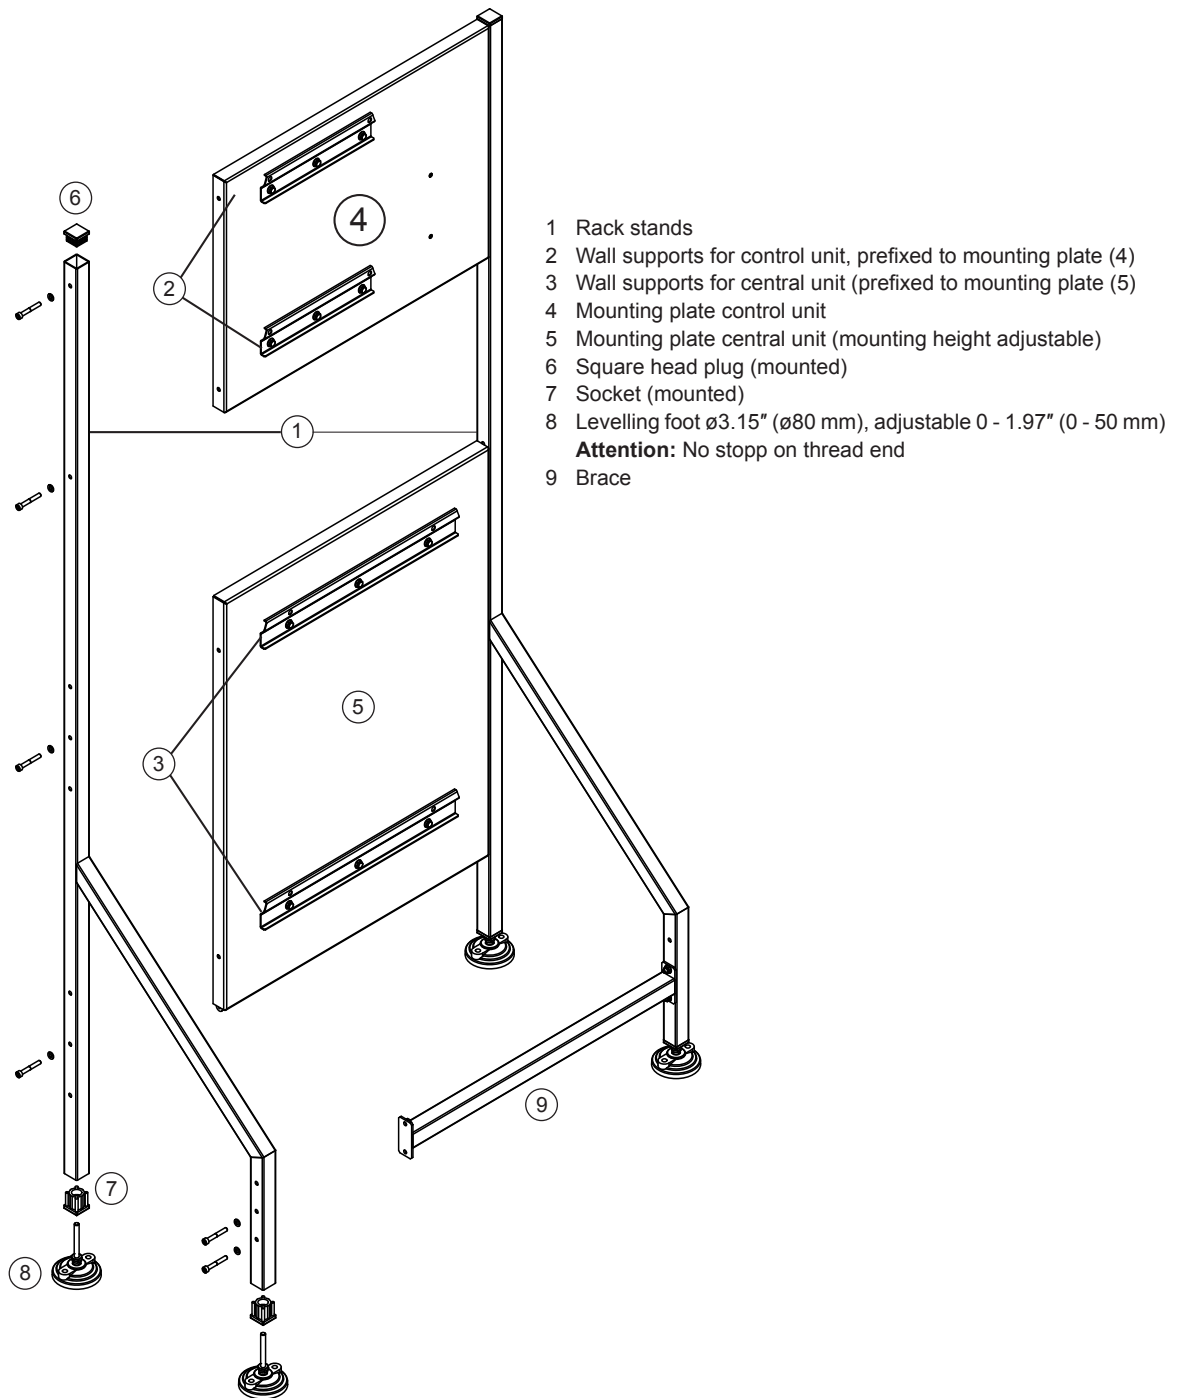

Fig. 34: Assembling the mounting rack
1. Assemble the rack stands (1), mounting plates (4 and 5) and the brace (9) with the hexagon socket screws and washers supplied as shown in Fig. 34. Tighten all screws.